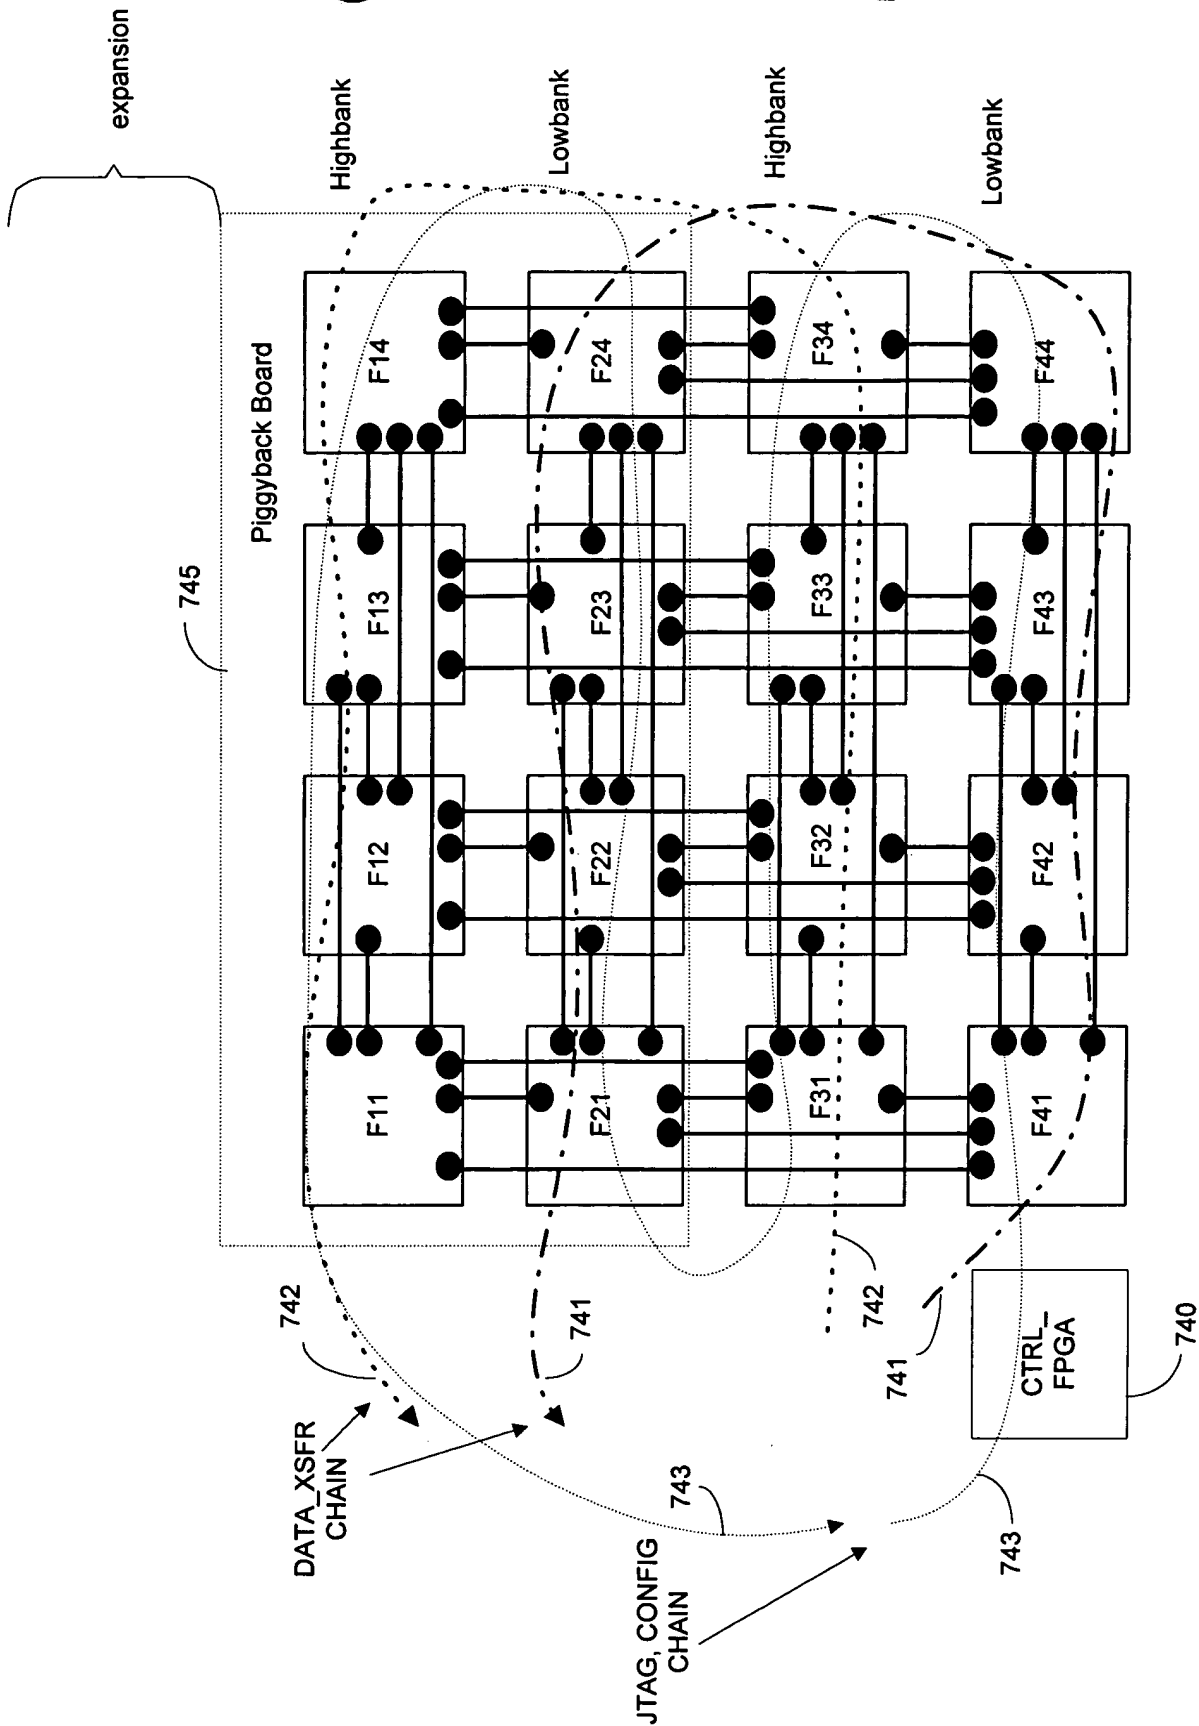

FIG. 24
FIG. 24 is a schematic diagram of a system architecture. The system includes a Piggyback Board (745) and a CTRL_FPGA (740). The Piggyback Board (745) is connected to the CTRL_FPGA (740) via a DATA_XSFR CHAIN (742) and a JTAG, CONFIG CHAIN (743). The Piggyback Board (745) is further divided into four banks: Highbank, Lowbank, Highbank, and Lowbank. Each bank contains a series of functional blocks (F11, F12, F13, F14, F21, F22, F23, F24, F31, F32, F33, F34, F41, F42, F43, F44) connected in a grid-like fashion. The system also includes an expansion section (741) and a JTAG, CONFIG CHAIN (743) connecting the Piggyback Board (745) to the CTRL_FPGA (740).